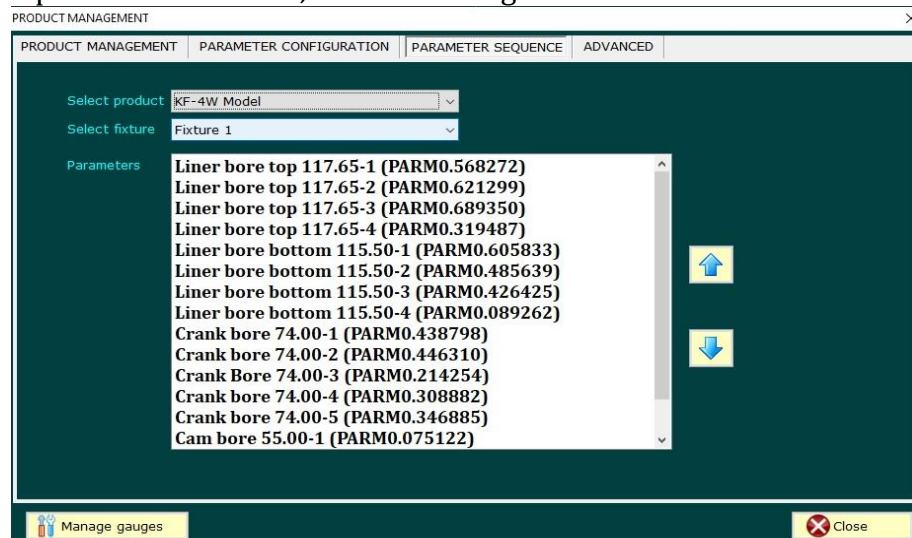

Figure 12
- The parameters can be sequenced using the up and down buttons after selecting the product and fixture, as shown in figure 12.